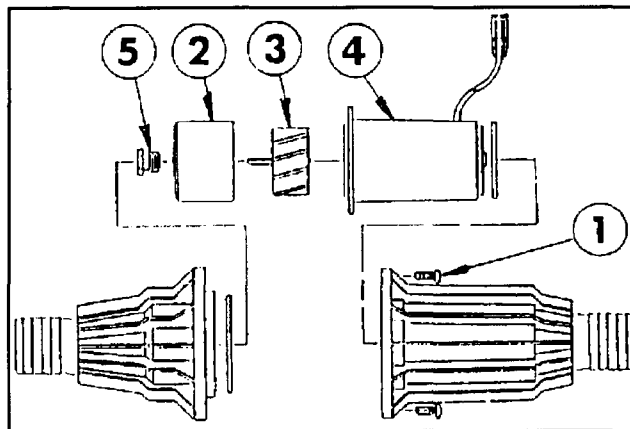

FIG. 3
3. Remove flange bolts from the Flow Meter. See FIG. 3.